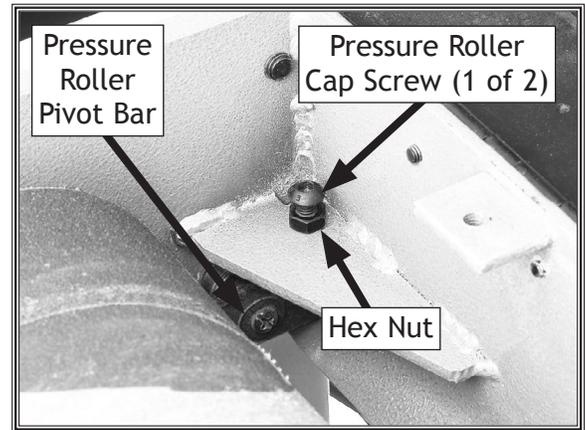

Figure 45. Rear pressure roller adjustments.
2. Loosen hex nut securing tensioner cap screws on both ends of rear pressure roller shown in **Figure 45**.